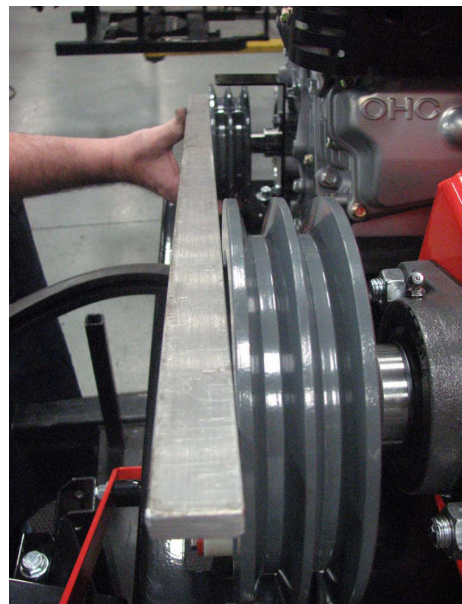

Figure 5.11, Checking Pulley Alignment
11. Using a straight edge, align the sheave with the other pulley to ±1/16". Keep in mind that the sheave will shift approximately 1/16" to 1/8" away from you once it is tightened (see Figure 5.11).
14. Recheck pulley alignment. Pulley faces should line up. If not, readjust and repeat alignment check (see Figure 5.11).